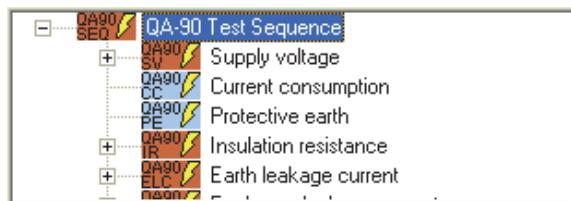

Figure 3-56. QA-90 Safety Test Template
1. Create a new test template and add the required safety tests. This example places all safety tests in a QA-90 Test Sequence so that they are performed automatically. See the Users Manual for the QA-90 Plug-In for more information on automatic test sequences. Figure 3-56 shows the safety tests in the template.